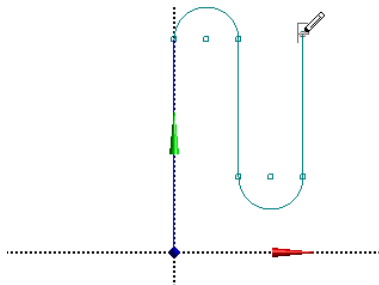

Figure 3-68 Specifying the startpoint of the arc 4
26. Select the end point of line 3, as shown in Figure 3-68; you are prompted to specify the end point of arc 4.